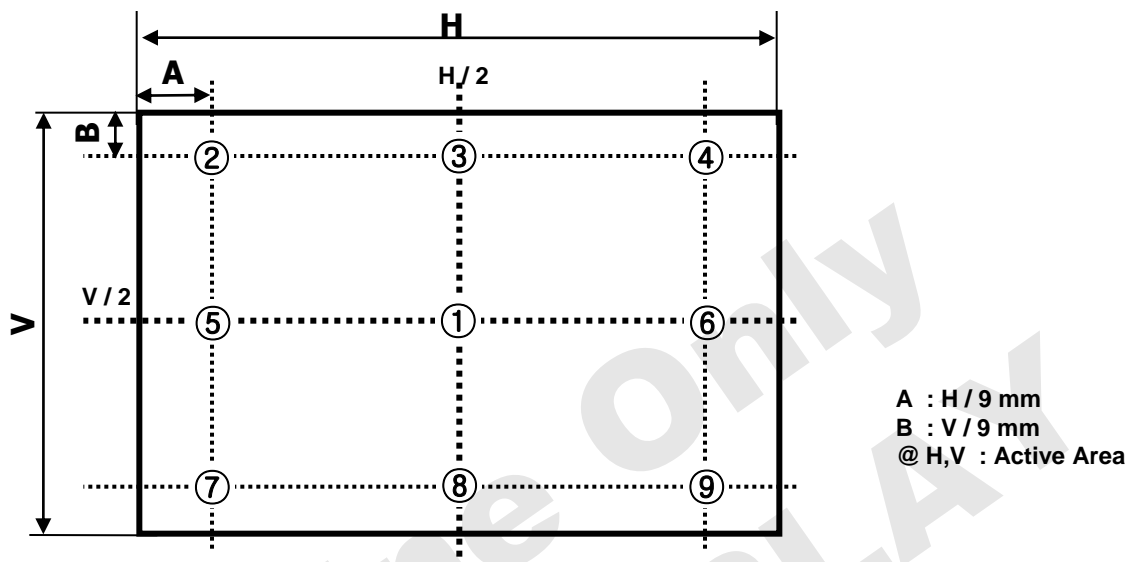

FIG. 2 9 Points for Luminance Measure
2. Surface luminance are determined after the unit has been 'ON' and 1 Hour after lighting the backlight in a dark environment at $25 \pm 2^\circ\text{C}$. Surface luminance is the luminance value at center 1-point across the LCD surface 50cm from the surface with all pixels displaying white. For more information see the FIG. 2.
Where L_{on1} to L_{on5} are the luminance with all pixels displaying white at 5 locations . For more information, see the FIG. 2.